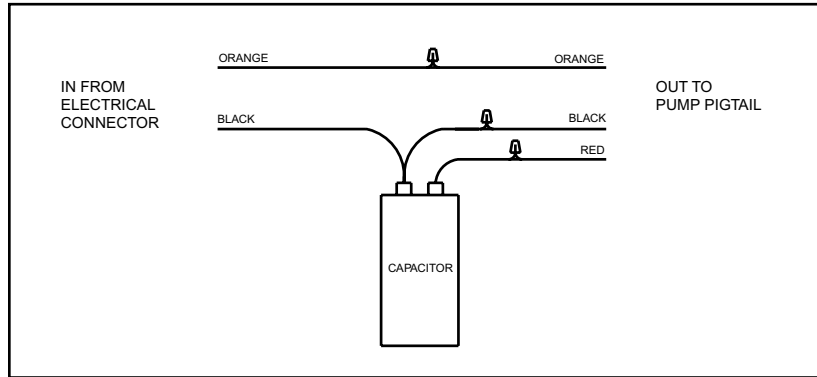

Figure 2.6 Wiring schematic
- 15: Using supplied wire nuts, attach like colored pump pigtail wires to wires. See figure 2.6 to verify connections.